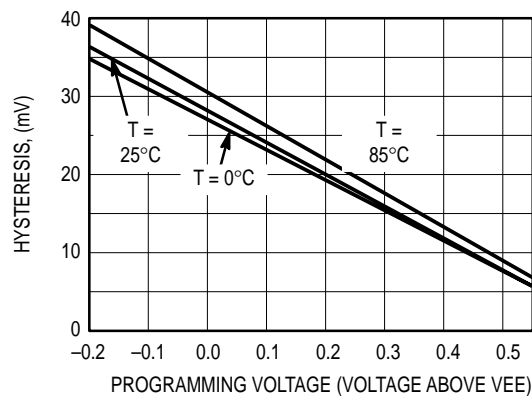

Figure 2. Hysteresis Programming Voltage
- The HYS pin programming characterization information is shown in Figure 2. The hysteresis values indicated in the data sheet are for the condition in which the voltage on the HYS pin is set to  $V_{EE}$ .
- Hysteresis skew ( $V_{skew}$ ) is provided to indicate the offset of the hysteresis window. For example, at 25°C the nominal hysteresis value is 27 mV and the  $V_{skew}$  value indicates that the hysteresis was skewed from the reference level by 1 mV in the negative direction. Hence the hysteresis window ranged from 14 mV below the reference level to 13 mV above the reference level. All hysteresis measurements were determined using a reference voltage of 0 mV. The hysteresis skew values apply over the programming range shown in Figure 2.